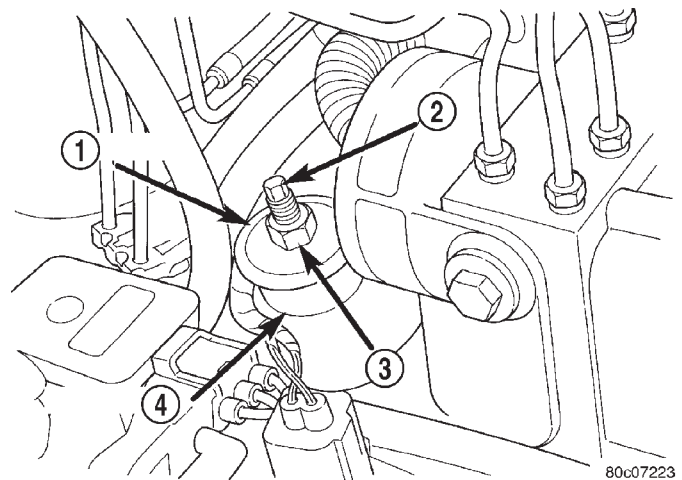

Fig. 2 Upper Shock Mounting
- (1) Remove the nut, retainer and grommet from the shock stud in the engine compartment (Fig. 2).
- (2) Raise and support the front axle.